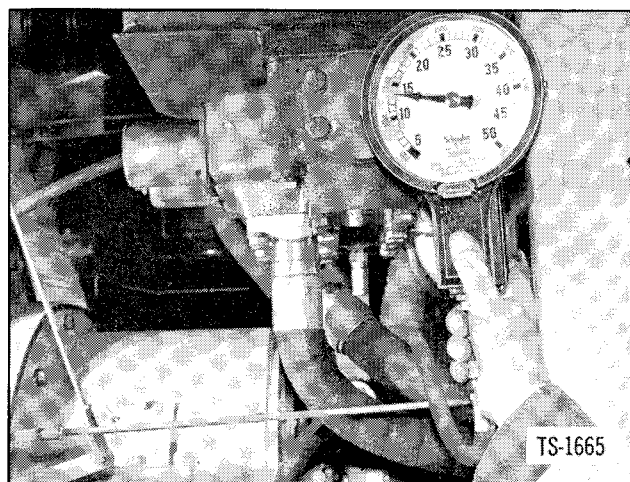

Fig. 20. Pressure Reading — Boom and Bucket (Main Hydraulic) Valve
2. Remove pipe plug at bottom of control valve, and attach gauge as shown in Figure 20.